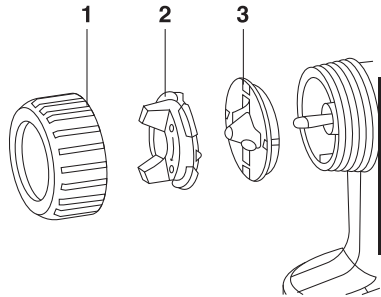
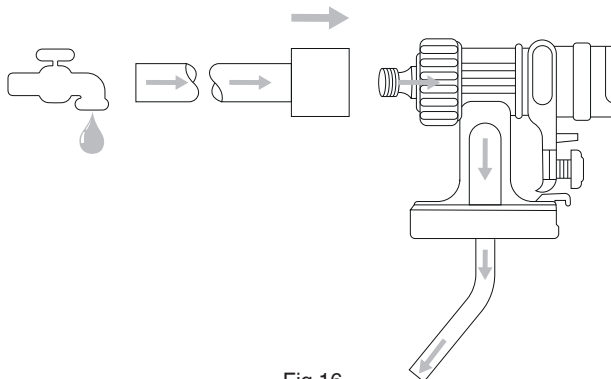

Fig13
Fig 16
- Rotate the mounting nut (fig. 13,1) to remove and remove it more easily.
- Unscrew the mounting nut (13.1). Clean the air cap (2) and the nozzle (3) with a hand brush solvent or water.
- Another quick way to clean the inner passage: one end of the pipe is connected to the faucet and the other end is connected to the cleaning joint. Open the faucet and flush the inner channel of the gun body. As shown in (Fig.16)
Cleaning connector replacement instructions can be shown as Fig.16.